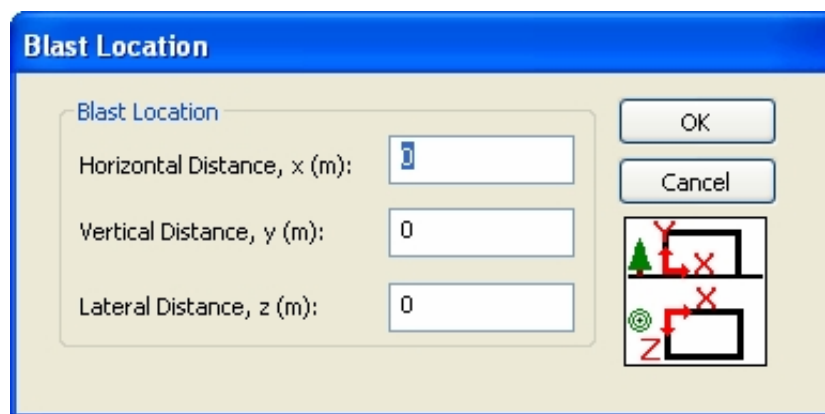

Figure 4 Blast Location dialog box.
1. Select the **Analysis/Blast Location** menu item. The Blast Location dialog box appears as shown in Figure 4.